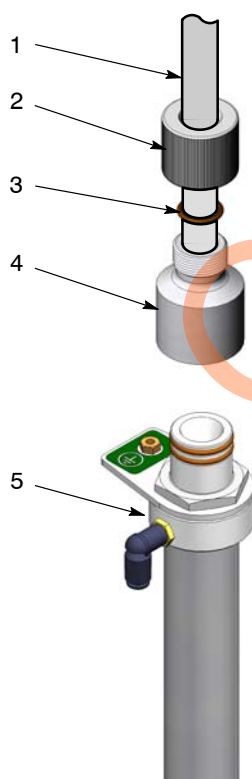

Figure 7 Pickup Tube Adapter Assembly
NOTE: Pickup tube adapter assemblies are available for pickup tubes with or without an external O-ring. Figure 7 shows a pickup tube with an external O-ring.
1. See Figure 7. Cut the end of the suction tubing (1) square with a tubing cutter.
2. Insert approximately 2 inches of the suction tubing through the retaining nut (2).
3. Install the O-ring (3) onto the suction tubing.
4. Insert the suction tubing into the pump adapter (4) until it bottoms out.
7. Install the adapter assembly onto the pickup tube (5) using a twisting motion.